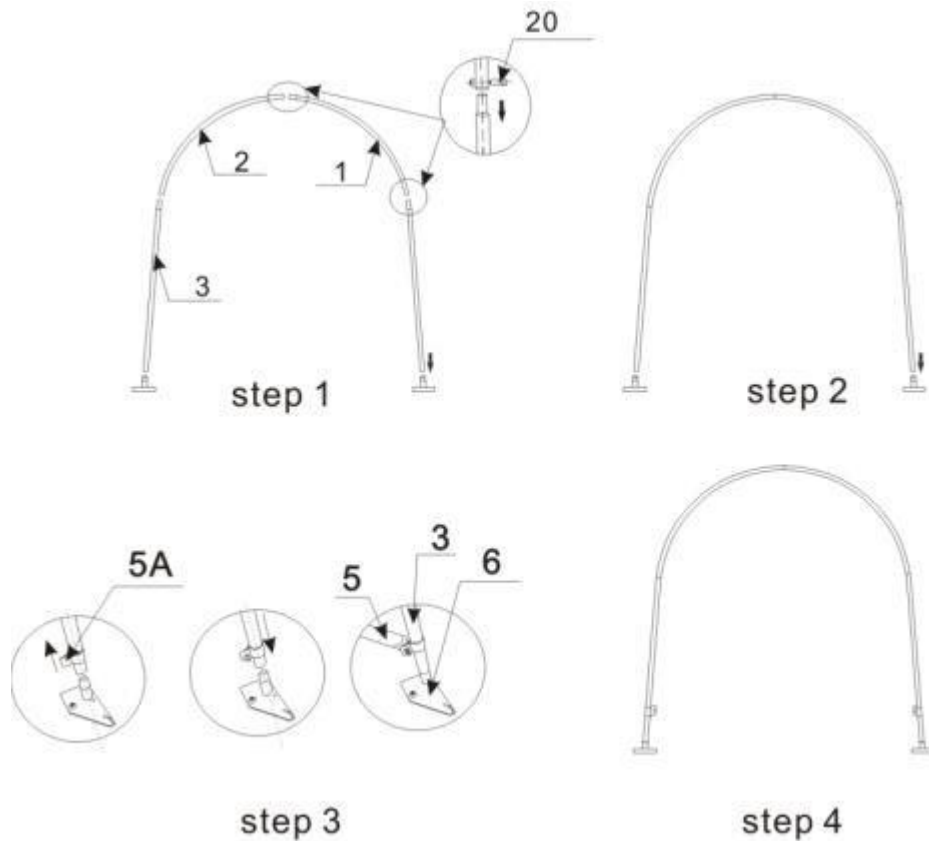

Figure 3
1. Please refer to Figure 3 for frame assembly, find one piece of top bent tube(No. 1), one piece of top bent tube(No. 2) and two pieces of Upright(No.3) and assemble every group arch with Bolt M8x70 (No.20) .There are seven groups of arch. Assemble each group arch by turns.
3. By this way, install another arch and then connect them by purlins. There are seven arches and four groups of purlins. You may refer to Figures 3 to find where the parts are when you are doing this.